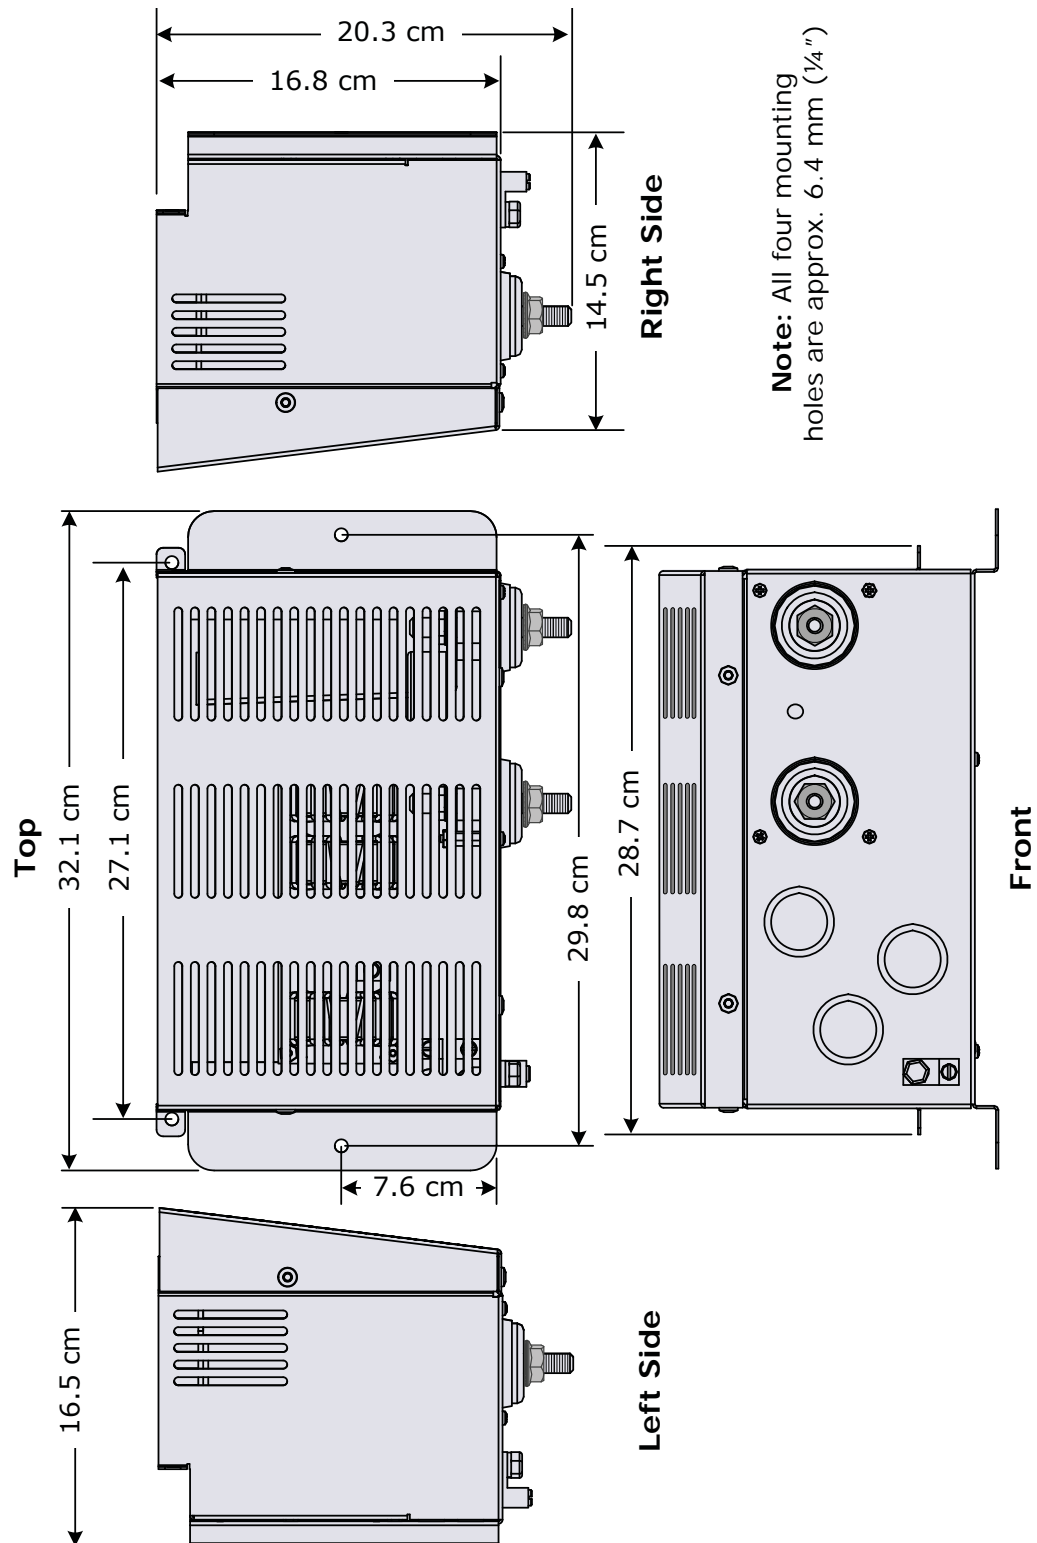

Figure 3, MS-CEFB Dimensions
The MS-CEFB provides knockouts for use with 3/4" and 1" trade size* conduit, and adds just over 20 cm to the length of the inverter (see Figure 3).
6. Determine the AC and DC wiring through the filter box, and then remove the appropriate knockouts (Figure 3).